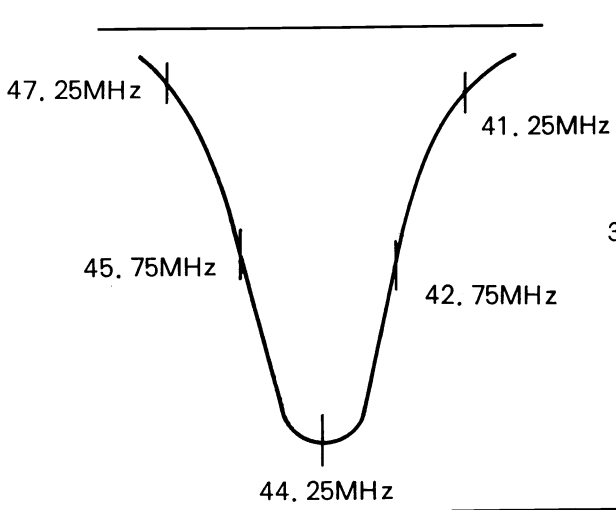

Figure 3
10. In the manner specified in step 8, adjust TIF-383 (Top & Bottom core) to obtain a waveform on the oscilloscope equivalent to the pattern in Figure 3.
2. Pull Control Knobs, Channel Selector Knob and Fine Tuning Knob straight out (Fig. 3).
3. Remove the two screws ( in Fig. 2 and Fig. 3).
(Fig. 3)